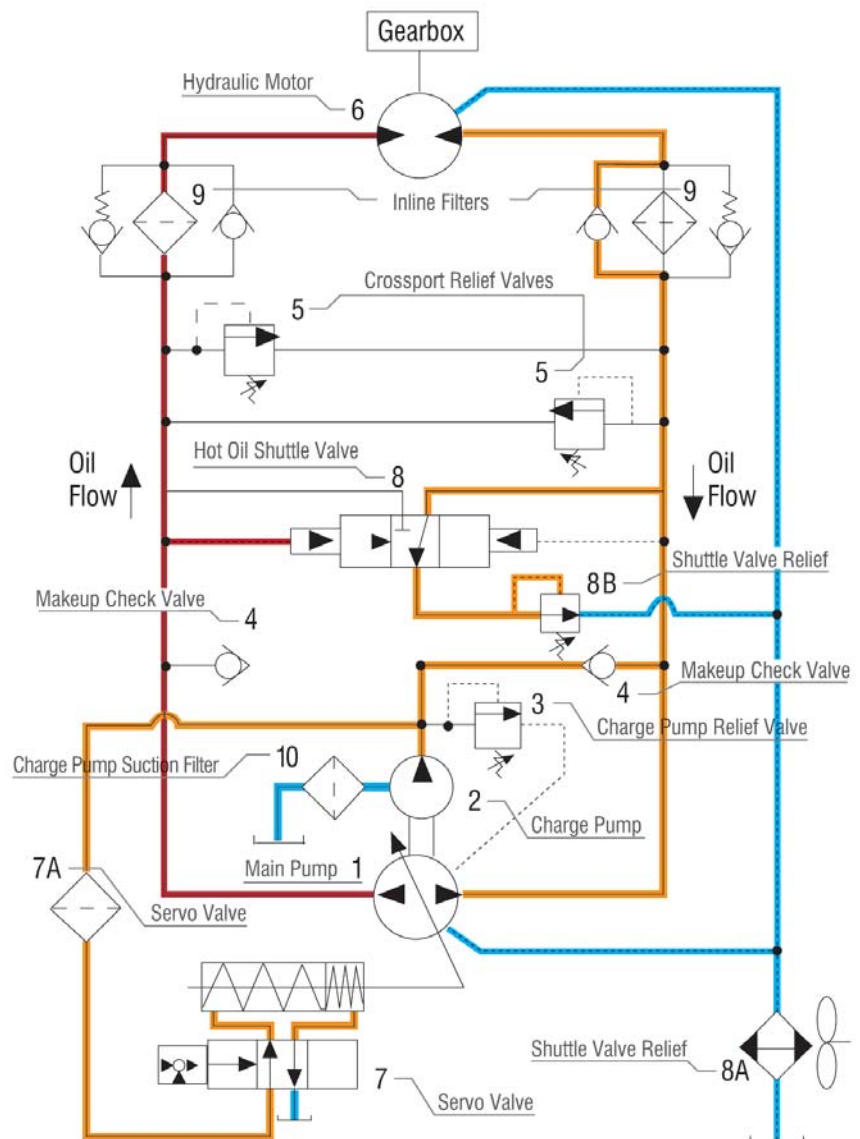

Figure 1. A typical hydrostatic drive
A schematic of a typical hydrostatic drive is shown in Figure 1. The bi-directional, variable displacement pump controls the direction and speed of the hydraulic motor. This type of drive is commonly called a closed-loop system. Notice how the pump's two ports are hydraulically connected to the two ports on the motor, forming the closed loop.
In Figure 1, the servo valve is shifted into the “A” position to port oil from the charge pump to the spring-loaded cylinder for stroking the pump swashplate. Once the swashplate moves proportionally to the amount the servo valve spool shifts, a mechanical feedback will block the oil flow out the servo valve. The pump swashplate will then stop moving and maintain the selected volume. To reverse the flow direction out of the pump, a negative direct current (DC) voltage is applied to the amplifier. The valve will then shift proportionally into the “B” position and deliver fluid out the opposite port to reverse the motor.
The filters shown in Figure 1 will filter oil as it flows into the motor. If the element becomes contaminated, oil will flow through the spring-loaded bypass check valve. Oil that flows out of the motor will flow through the non-spring-loaded check valve. The filters should have visual or electrical indicators to reveal when the elements are contaminated.